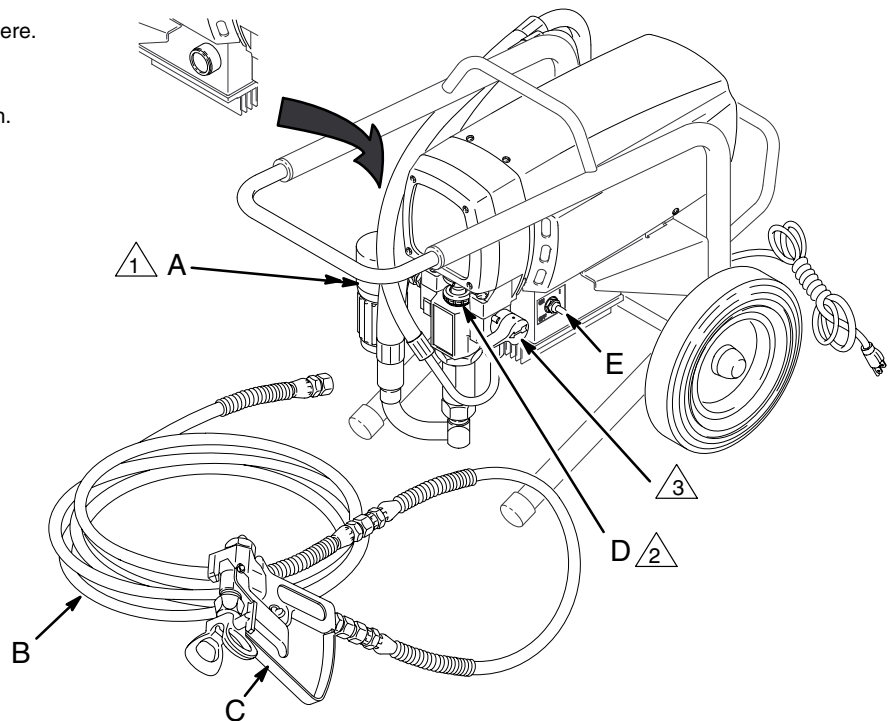

Fig.1
3. Never install any shutoff device between the pump and the hose. See Fig. 1.